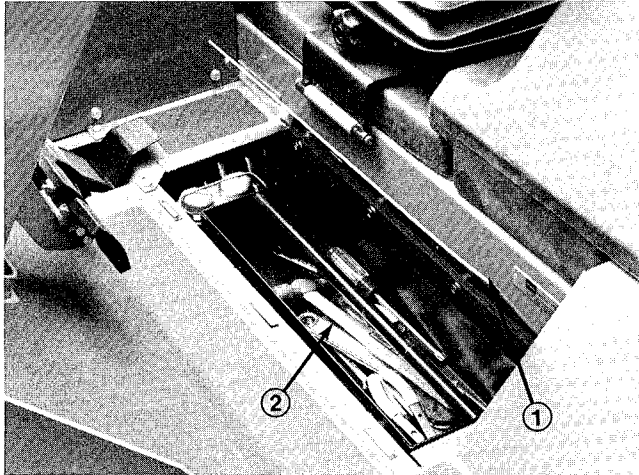

Figure 54
1. Raise floor panel in front of seat (Fig. 54). Remove tool tray.
2. Remove deck tilt link from tool box under traction unit floor (Fig. 54) and klik pins from weldments on traction unit frame and cutting unit lift arm.